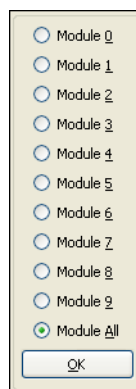

Figure 13. Module Number List
- a Select the **Module Number** menu to display a list of all modules; see Figure 13.